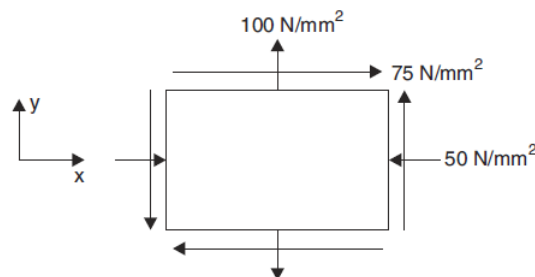

Figure 2
- (b) State of stress at a point in a material is as shown in the Figure 2. Determine i) Principal stresses ii) Maximum shear stress iii) Plane of maximum shear stress iv) The resultant stress on the plane of maximum shear stress. [BL: Apply| CO: 6|Marks: 7]